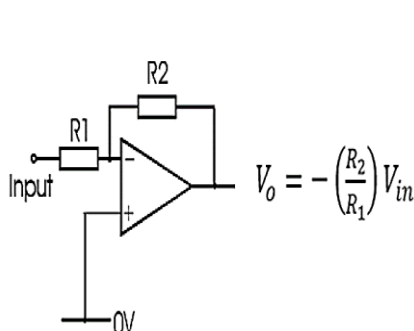

FIGURE 1
Inverting Amplifier (figure 1)
3. Configure the circuit using a suitable software as shown in Figure 1 with resistors $R_1 = \dots \text{Ohms}$ and $R_2 = \dots \text{Ohms}$